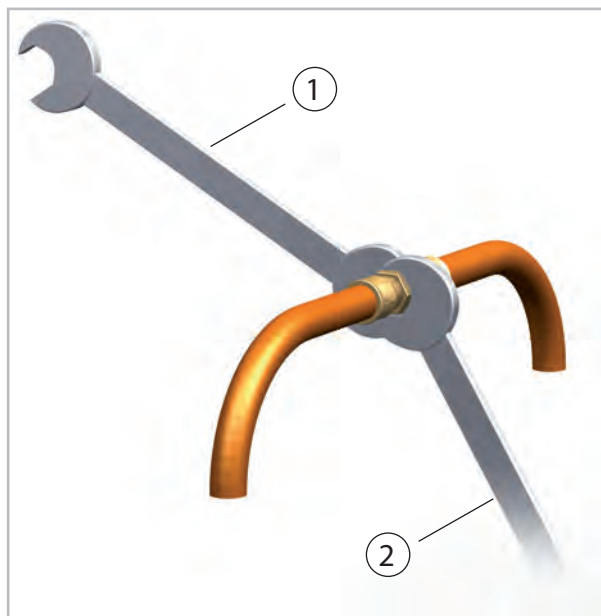

Fig. 41: Tightening the fitting
11. ➤ Then tighten the fittings with 2 appropriately-sized open-ended spanners. Use one spanner to counter the force when tightening the fitting (Fig. 41).